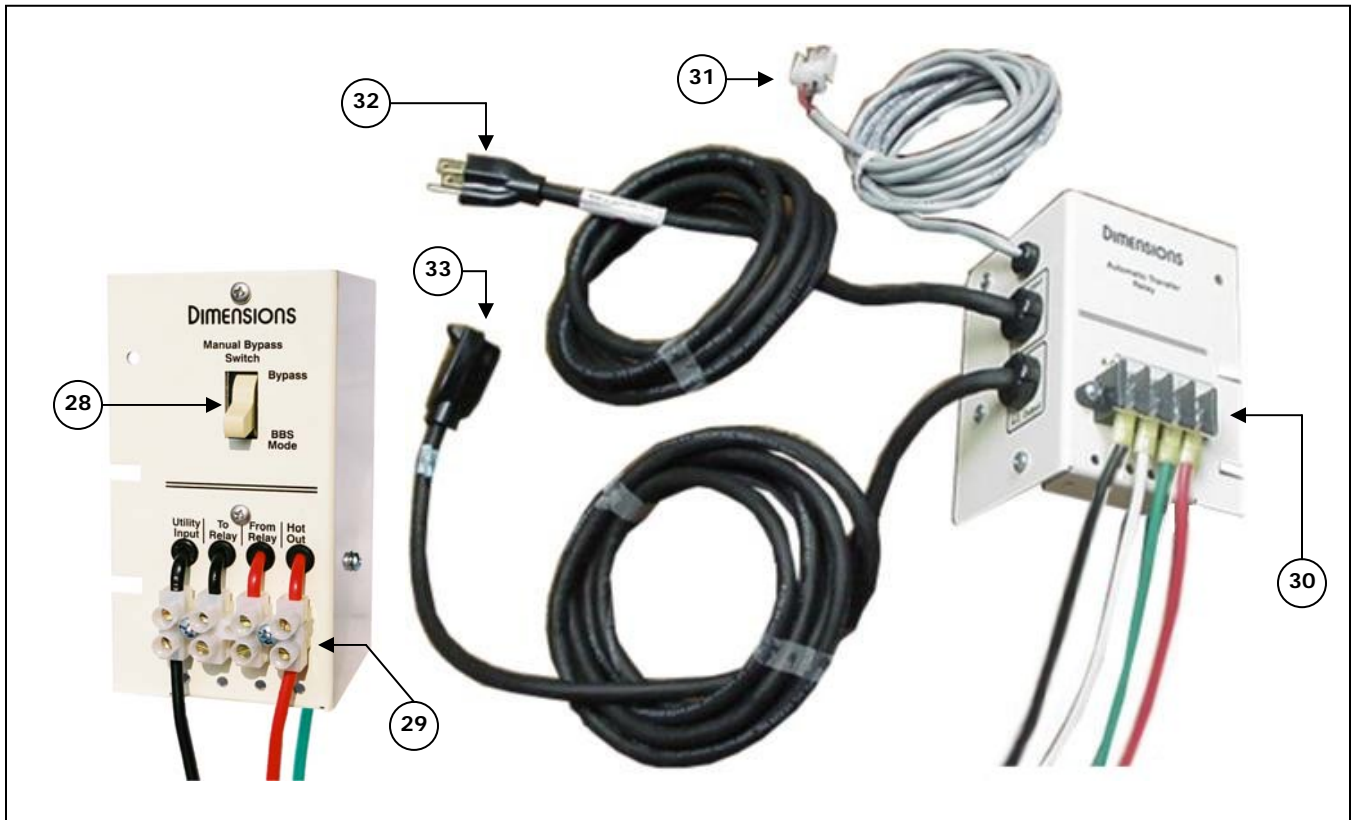

FIGURE 2: MBPS and 30ATR physical description
- (6) **Number of Outages Meter:** Tells the number of times the system has operated from batteries since the meter was reset.
- (7) **Battery Charger On:** The green LED lights only when external AC power is present to indicate that the battery charging is engaged.
- (8) **Battery Charger Full:** The green LED lights only when external AC power is present to indicate that batteries are fully charged.
- (9) **Check Battery:** Yellow LED indicates a problem in the batteries or the battery cable.
- (10) **Relay A – On Batt:** Green LED lights to indicate that the BBS is in Inverter mode.
- (11) **Relay – B – Low Batt:** Green LED lights when the system is in Inverter mode and the useful battery capacity remaining is at the reference level chosen by user (40% in most applications).
- (12) **Relay – C – 2 Hr. Time:** Lights only to indicate that the BBS has been in Inverter mode for more than two hours.
- (13) **Transfer Relay Connector:** Two-pin connector connects to the 30ATR or CMBPS-30ATR to drive the 30 amp relay.
- (14) **Temp. Comp. Sense Wire:** Three-pin connector connects to a 9ft extension wire to the negative battery post.
- (15) **Battery Connector Cable:** Enables fast connection to batteries, Red (+) and Black (-) marks.
- (16) **BBS AC Receptacle Cord:** Connects to the 30ATR or CMBPS-30ATR AC plug item 32 in Figure 2 below.
- (17) **BBS AC Connector Plug:** Connects to the 30ATR or CMBPS-30ATR receptacle cord item 33 in Figure 2 below.
- (18) **Inverter On:** Green LED lights only if the power switch has been set to “On” to indicate that the DC to AC inverter is on.
- (19) **Inverter – Shutdown – Low Batt:** Red LED lights to indicate that the battery voltage has dropped to 42VDC and will shutdown in five seconds due to a low voltage condition.
- (20) **Inverter – Shutdown – Overload:** Red LED lights to indicate that the power demand by the load is larger than the power the BBS can deliver. The inverter will shutdown in five seconds due to an overload condition.
- (21) **Inverter – Shutdown – High Temp:** Red LED lights to indicate that the internal electronic circuit temperature has exceeded the maximum operating temperature limit. The inverter will shutdown in five seconds due to a high temperature condition.
- (22) **Power On/Off Switch:** Turns the inverter “On” or “Off” and activates or deactivates the dry relay contacts as well.
- (23) **Battery Voltage Test Point:** Attach voltmeter probes to check the battery voltage at the inverter.
- (24) **Dry Relay Connector Board:** Wiring connector board.
- (25) **Low Battery Voltage Potentiometer:** Use to select the level of remaining useful battery capacity to trigger the low battery dry relay.
- (26) **RS-232 Connector Port:** Connects to a windows based PC for monitoring and controlling the BBS.
- (27) **Battery Capacity:** Indicates a ratio of battery capacity level.